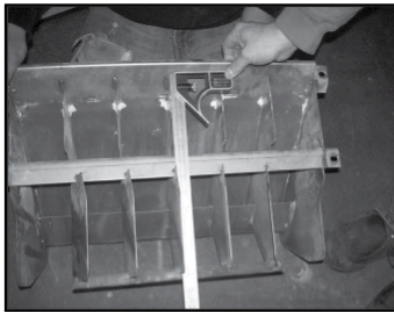

Figure 11
1. Figure 11 - Make sure center fin is square to rear panel.